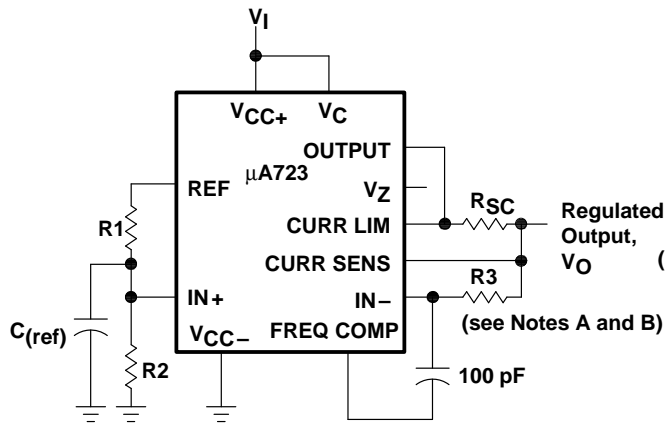

Figure 1. Basic Low-Voltage Regulator
- NOTES: 2. For all values in this table, the device is connected as shown in Figure 1 with the divider resistance as seen by the error amplifier ≤ 10 kΩ. Unless otherwise specified, V_I = V_{CC+} = V_C = 12 V, V_{CC-} = 0, V_O = 5 V, I_O = 1 mA, R_{SC} = 0, and C_{ref} = 0.
- NOTES: 2. For all values in this table, the device is connected as shown in Figure 1 with the divider resistance as seen by the error amplifier $\leq 10\text{ k}\Omega$. Unless otherwise specified, $V_I = V_{\text{CC}+} = V_C = 12\text{ V}$, $V_{\text{CC}-} = 0$, $V_O = 5\text{ V}$, $I_O = 1\text{ mA}$, $R_{\text{SC}} = 0$, and $C_{\text{ref}} = 0$.